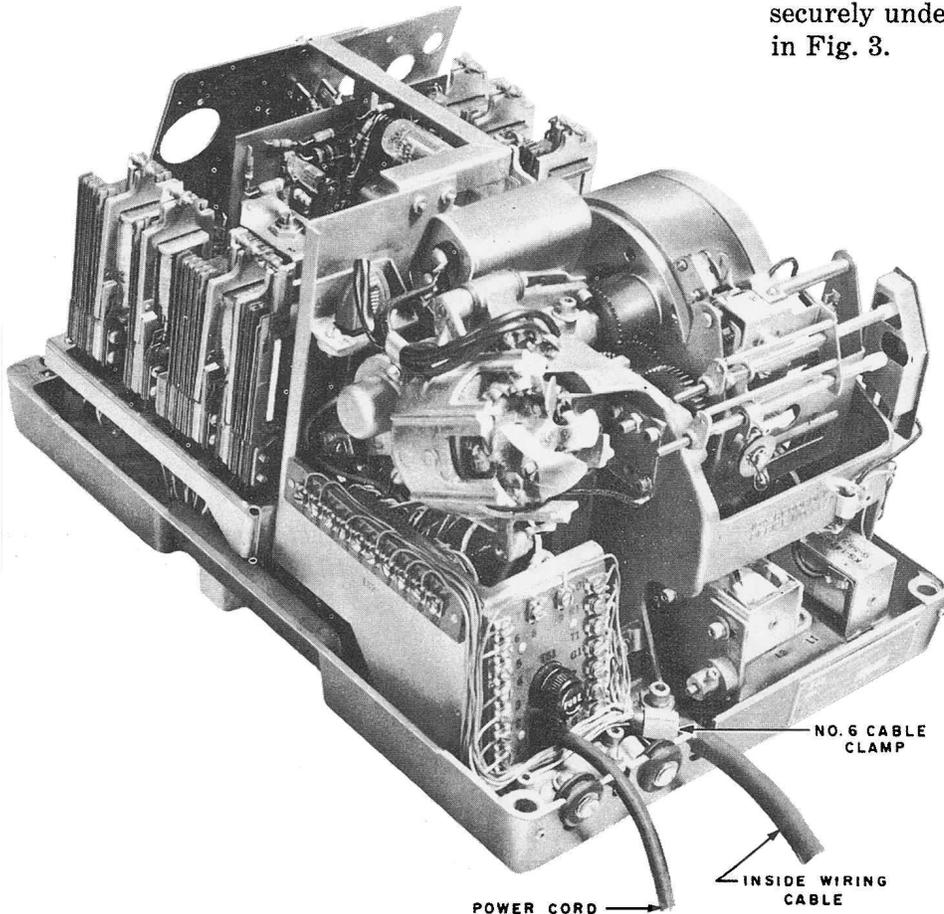

Fig. 3 — Cable Arrangement
3. Install No. 6 cable clamp under hex-socket head mounting screw (see Fig. 3).
4. Form cable into entrance slot and fasten securely under No. 6 cable clamp as shown in Fig. 3.